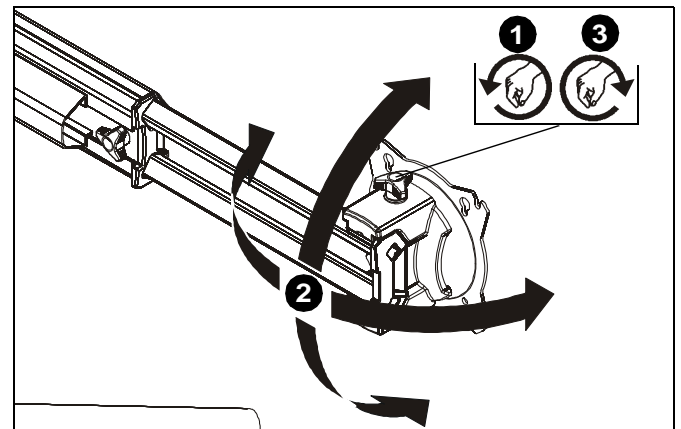

Figure 22
1. Loosen knob on top of faceplate assembly. (See Figure 22)
2. Adjust pitch, roll and/or yaw as desired. (See Figure 22)
3. Tighten knob to secure desired faceplate position. (See Figure 22)